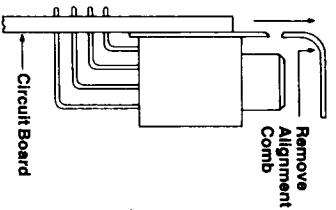

Figure 2
2. After the PC connector has been positioned onto the printed circuit board, the contact alignment comb is removed from the connector. (Ref. Figure 2)